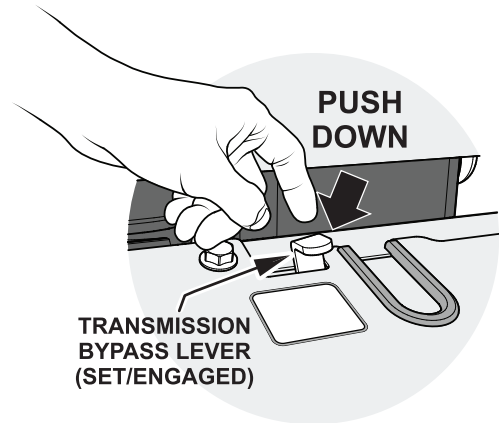

Figure 16. Transmission Bypass Lever (Engaged)
1. Make sure the transmission bypass lever (Figure 16) is engaged (down position). To engage, push lever downward and move to the left.